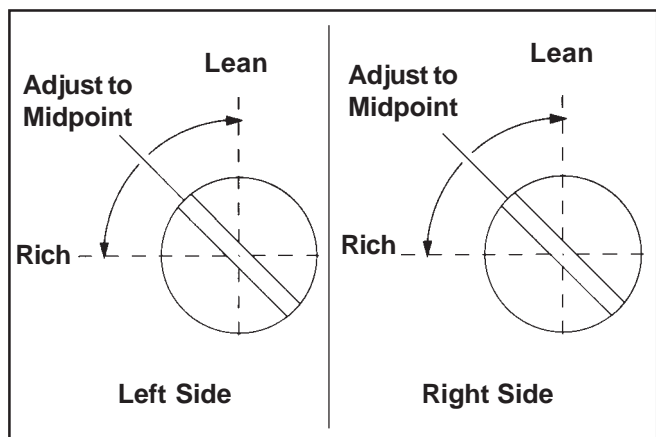

Figure 27. Optimum Low Idle Fuel Settings.
- a. Turn one of the low idle fuel adjusting needles out (counterclockwise) from the preliminary setting until the engine speed decreases (rich). Note the position of the needle. Now turn the adjusting needle in (clockwise). The engine speed may increase, then it will decrease as the needle is turned **in** (lean). Note the position of the needle. Set the adjusting needle midway between the rich and lean settings. See Figure 27.